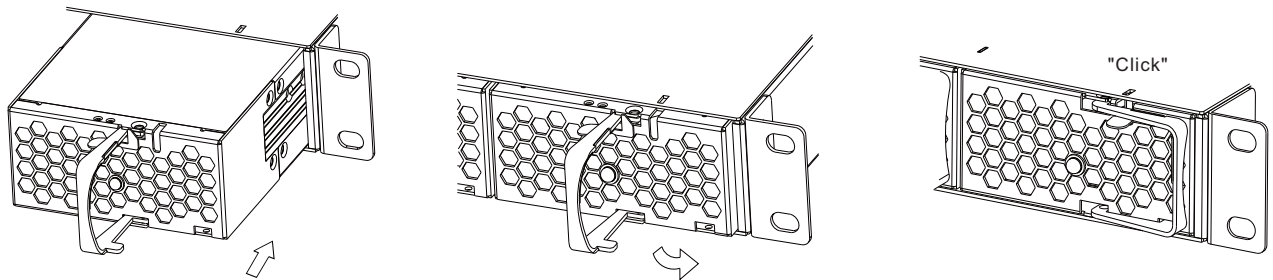

Figure 3-6 Illustration of how to insert the RCP/RCB-1600 into a rack
- ⊙ Please be aware that it is required to use remote sense function to get a normal output voltage. At least connect +S to +V and -S to -V, called Local Sense, shown in Figure 3-6. Otherwise, the output voltage will increase to an extremely high level which may trigger OVP.